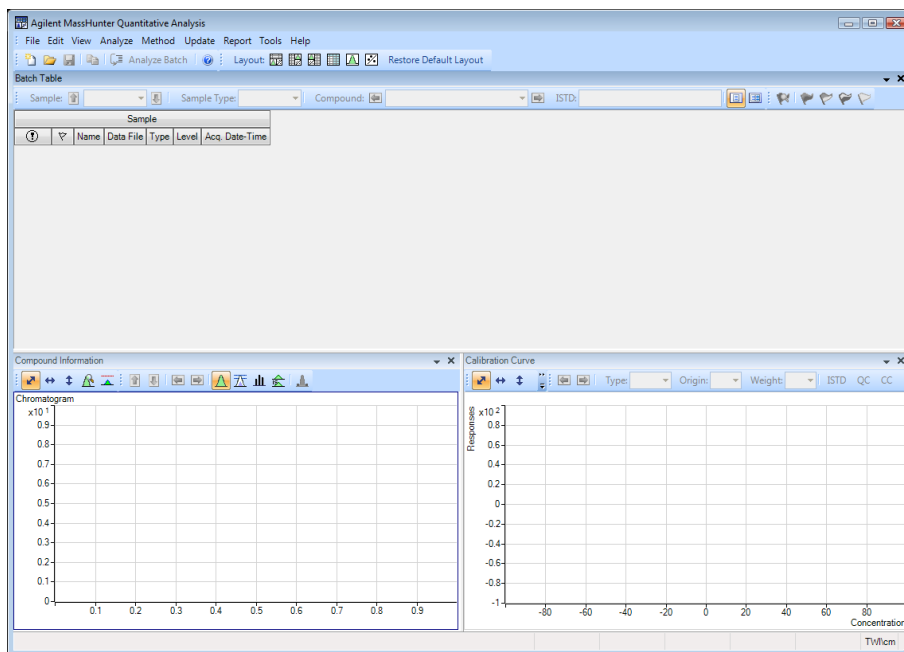

Figure 4. Default layout
- 1 To start the Quantitative Analysis program, click the **Quantitative Analysis (Q-TOF)** icon on your Desktop . When you first use the program, the default layout appears, as shown in **Figure 4**.